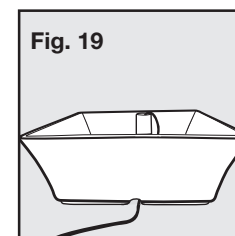

**Fig. 19**
- Press down on the pump to engage the suction cups. Once the pump is securely in place, feed the in-line plug of the electrical power cord over and through the raised post and out the notch in the base of the bowl (**Fig. 19**).